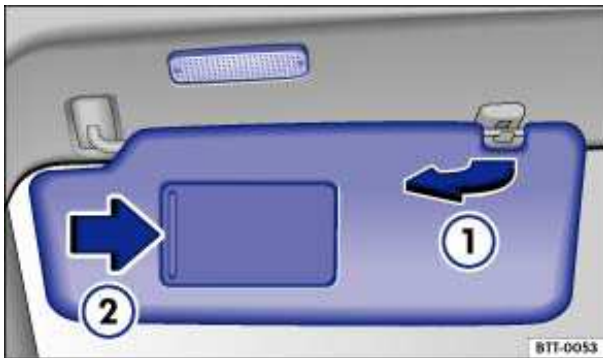

Fig. 99 Sun visor.
- Lift it out of the retaining clip ⇒ fig. 99 \(1\) and swivel it over toward the door.